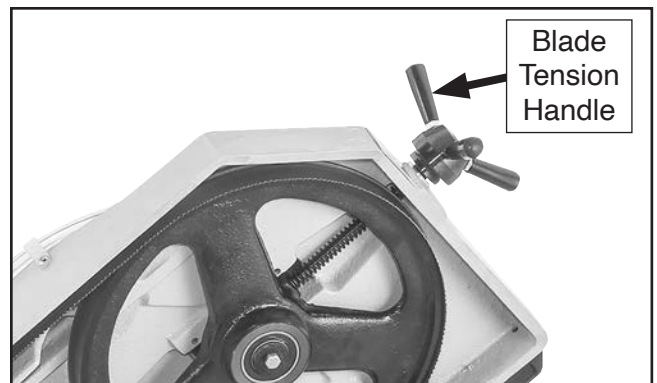

Figure 41. Location of blade tension handle.
7. Release blade tension by turning blade tension handle counterclockwise (see **Figure 41**).